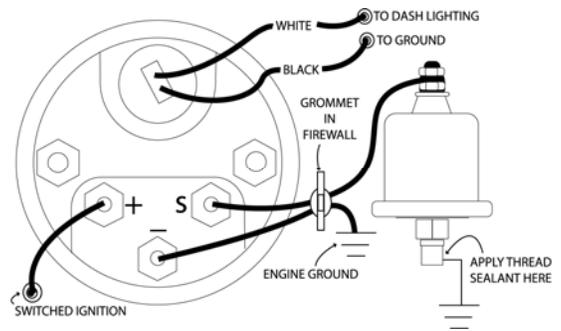

Figure 2
**PRESSURE GAUGE WIRING (Figure 2):**
4. Using 18-ga. wire, connect the (S) sender terminal of the gauge to the pressure sender.
5. Connect one (1) of the light wires (WHITE) to the dash lighting circuit or to a +12V switched circuit.